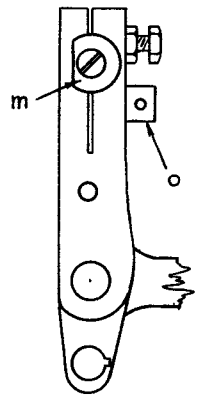
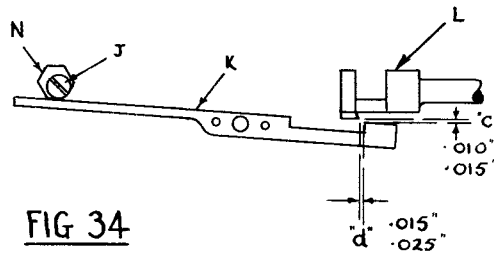

FIG. 35
FIG 34
54. ADJUST THE CLEARANCE BETWEEN THE COLUMN & CARRIAGE RETURN DOGS K & THE CROSSHEAD L TO SATISFY DIMENSION "C" USING ECCENTRIC J. (FIG 34.) CLAMP BY NUT N. CHECK THAT THE ECCENTRIC J IS NOT FOULED WHEN THE CARRIAGE RETURN CONTROL LEVER OPERATES.
55. TURN THE MACHINE BY HAND UNTIL THE TRAVERSING LINK IS FARTHEST FROM THE CARRIAGE. THEN DIMENSION "d" (FIG 34) MAY BE ADJUSTED BY ECCENTRIC M (FIG 35) ON THE FEED LEVER, CLAMP BY SCREW O.